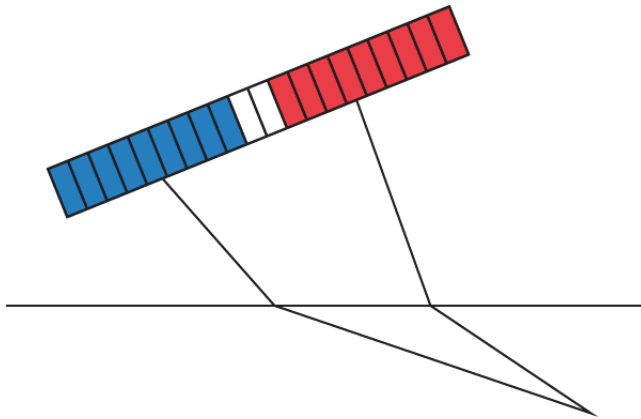

Figure 4-4 Phased array element usage
The 128 elements of a phased array (PA) probe can be used in either a pulse-echo or pitch-catch configuration. With the 16:128PR model, up to 16 consecutive elements can be used anywhere on the probe to pulse and receive. With the 32:128PR model, up to 32 consecutive elements can be used anywhere on the probe to pulse and receive (Figure 4-4 on page 51).